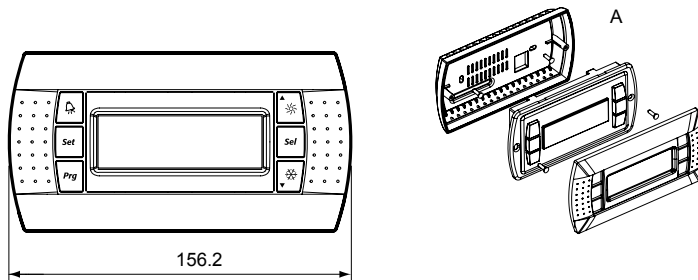

Fig. 8.3
4. Rest the front panel on the rear of the case and fasten the assembly using the countersunk screws, as shown in Fig. 8.3.